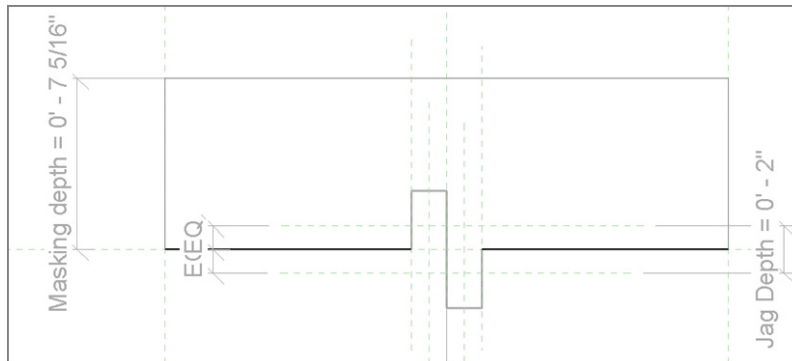

FIGURE 6.24 Delete the existing jag lines in the masking region
6. Delete the squared jag lines, as shown in Figure 6.24. Notice that the original boundary of the masking region remains displayed in the background for reference.